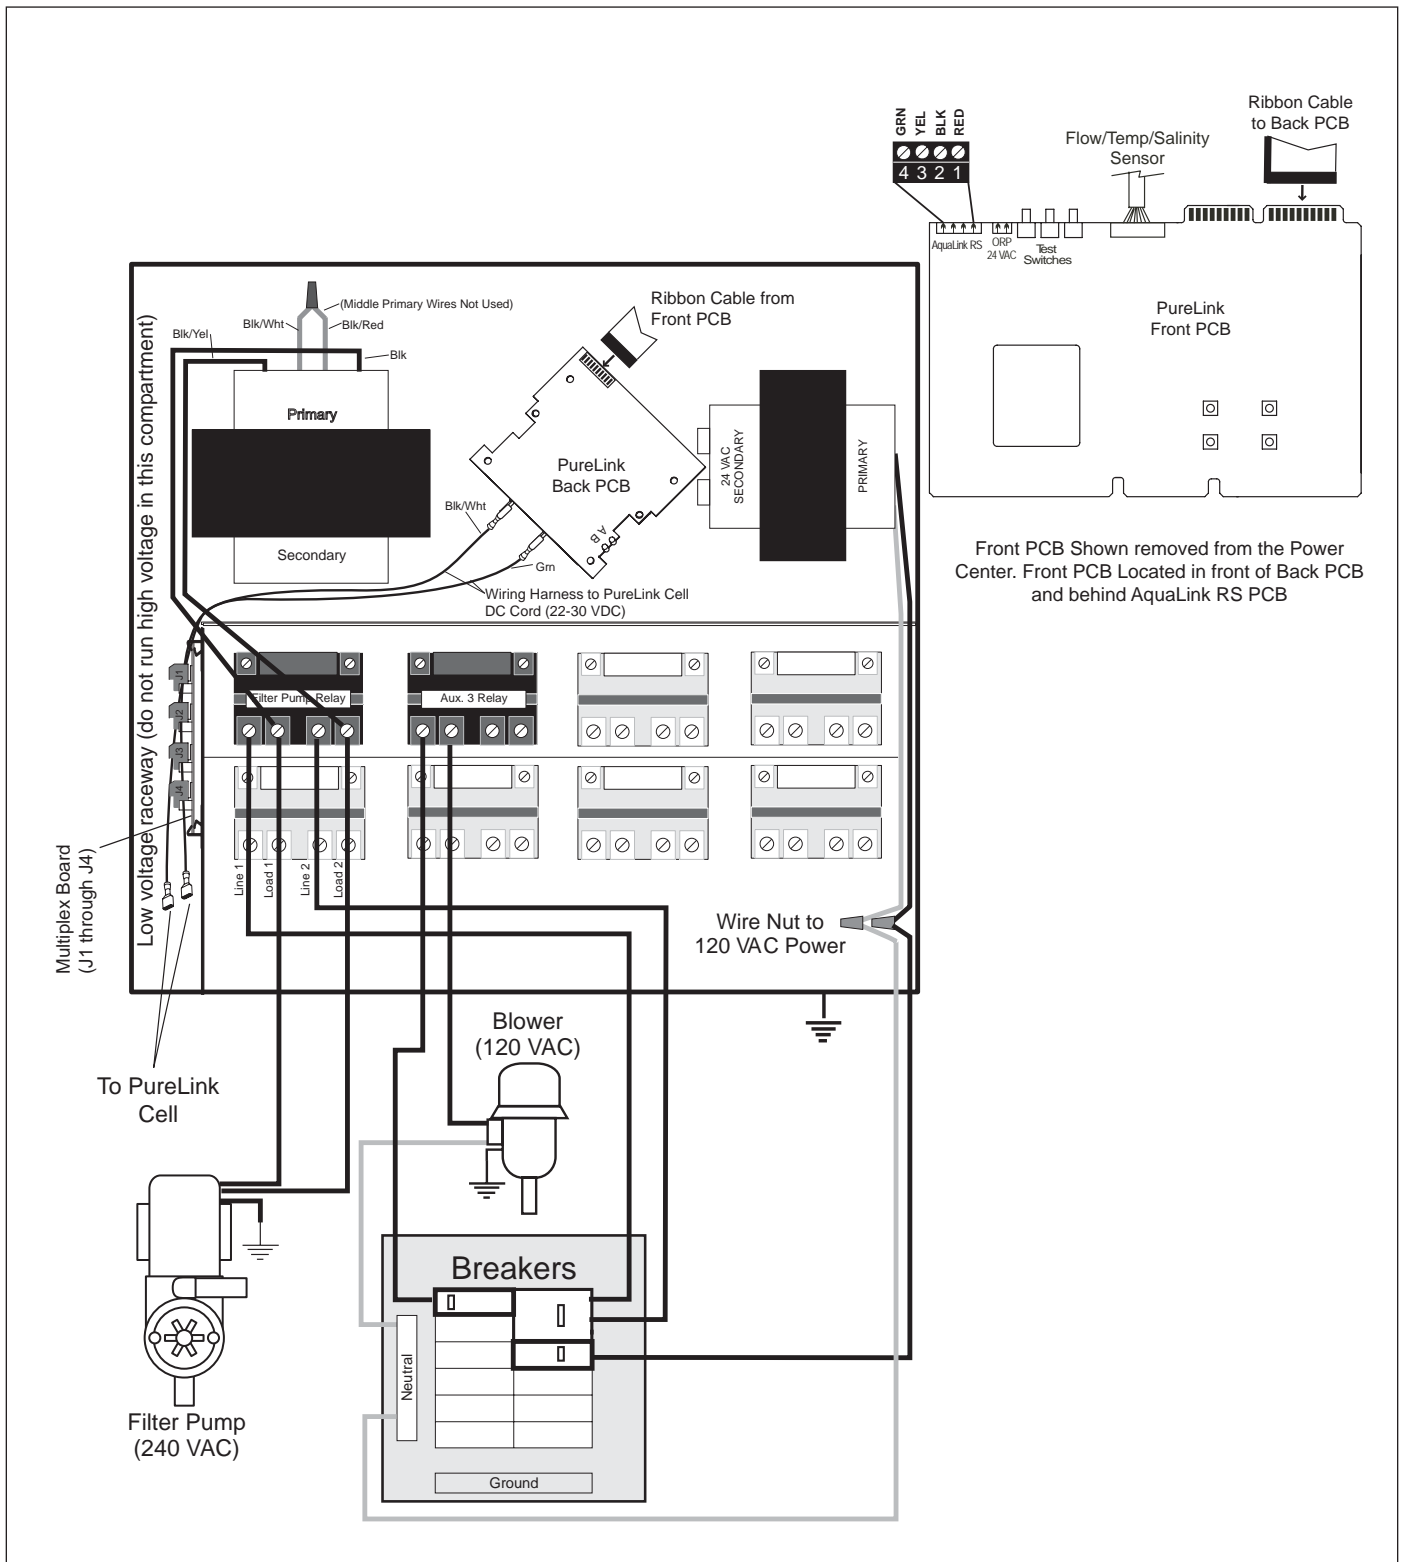

Figure 2a. 240 VAC Wiring Diagram for the AquaLink RS PureLink System
7. Install the strain relief provided with the PureLink Cell Kit into the low voltage knock out. Feed the connector end of the Flow/Temp/Salinity Sensor cable through the DC cord strain relief fitting. ***Be certain the connector is clean and dry***, then plug the cable into the connector on the power center Printed Circuit Board as shown in Figures 2a and 2b. (***Do not pull Flow/Temp/Salinity Sensor cable too tight, allow a little slack***).
9. Connect the DC cord to the Power center. Feed the DC cord through the same strain relief fitting as the Flow/Temp/Salinity Sensor. Plug the DC cord into the two spade connectors of the wiring harness located in the low voltage raceway of the PureLink Power Center, see Figure 2a and 2b. This wiring harness establishes the connection between the Cell and the Printed Circuit Board mounted on the back plate.
12. Plug the ribbon cable attached to the front cover PC board into Printed Circuit Board mounted on the backplate (see Figure 2a and 2b).
Referring to Figures 2a or 2b, wire the PureLink Power Center transformer to the load side of the filter pump relay.